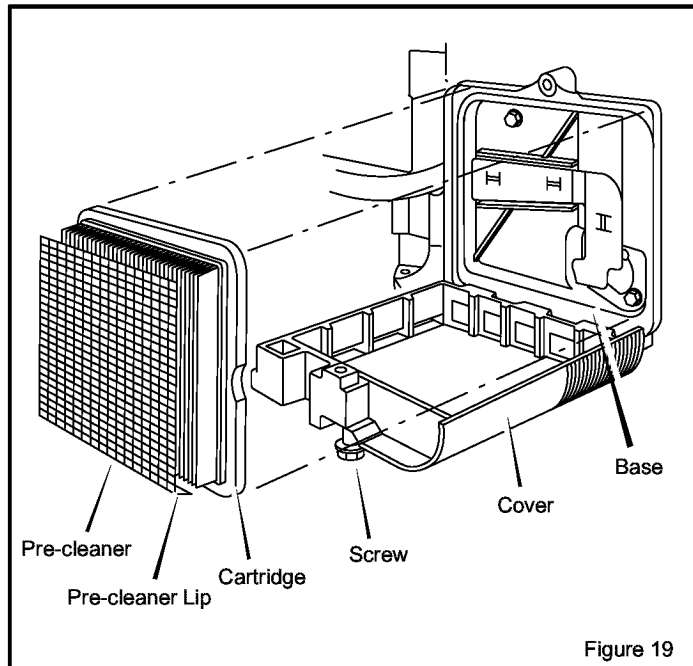

Figure 19
1. Loosen **screw** and tilt **cover** down (Figure 19).